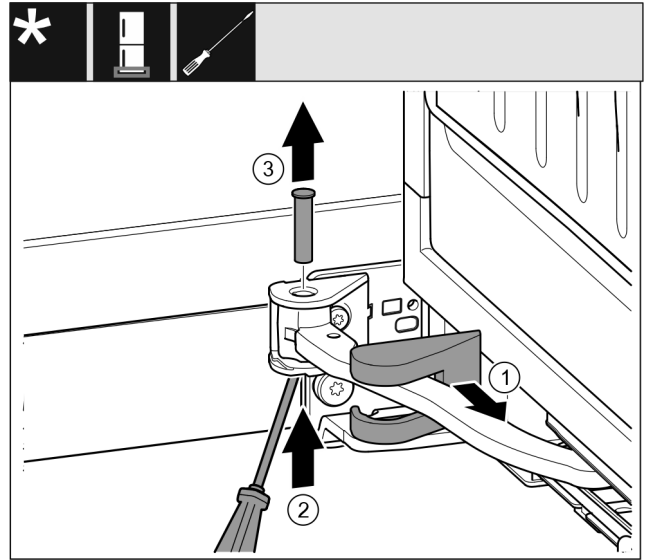

Fig. 15
- ▶ Remove the bearing bracket cover and push it along the hinge. Fig. 15 (1)
- ▶ Lift the bolt with a finger or screwdriver from below. Fig. 15 (2)
- ▶ Insert the screwdriver under the bolt head and remove it. Fig. 15 (3)